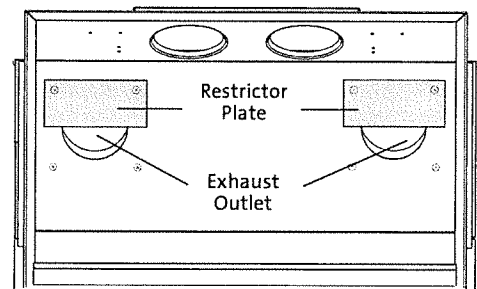

Figure 5. Exhaust Restrictor Plate installation.
The GF 600 DV Firelight includes two rectangular Exhaust Restrictor plates and one square Air Inlet Restrictor Plate as shown in Figure 5. These are located in the parts bag. The plates are used to compensate for draft characteristics that would otherwise interfere with proper burner performance such as low heat output, weak flame picture, or inefficient combustion.
2. Using a 1/4" nut driver, remove the two sheet metal screws in the rear wall of the firebox ABOVE EACH exhaust outlet. See Figure 5.